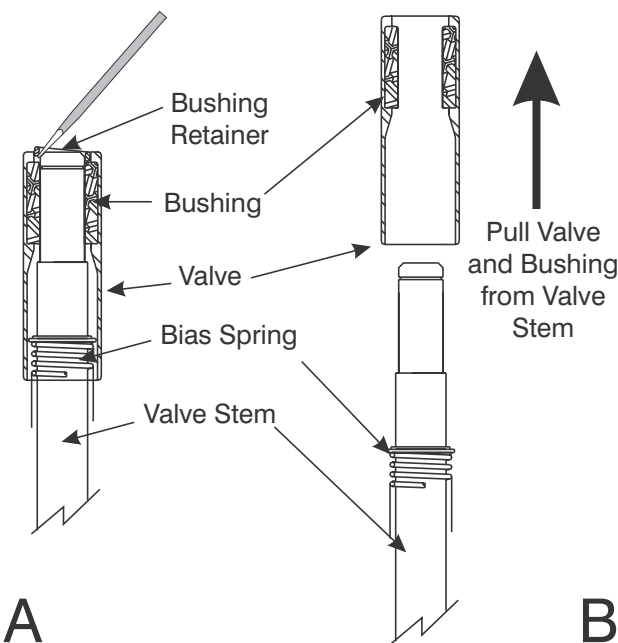

Figure 8-15. Remove Retainer from Valve and Valve Stem.
6. When the Valve Stem is unseated from the Bushing and Retainer, use a thin bladed screwdriver or knife to pry the Bushing Retainer (5) from the Valve Stem and Valve. See Figure 8-15-A.
7. By hand, finish pulling the assembled Valve (3) and Bushing (6) from the Valve Stem (11). See Figure 8-15-B.
8. With a sharp knife or hacksaw, cut the Bushing (6) inside the Valve into two or three pieces. Pry the bushing pieces